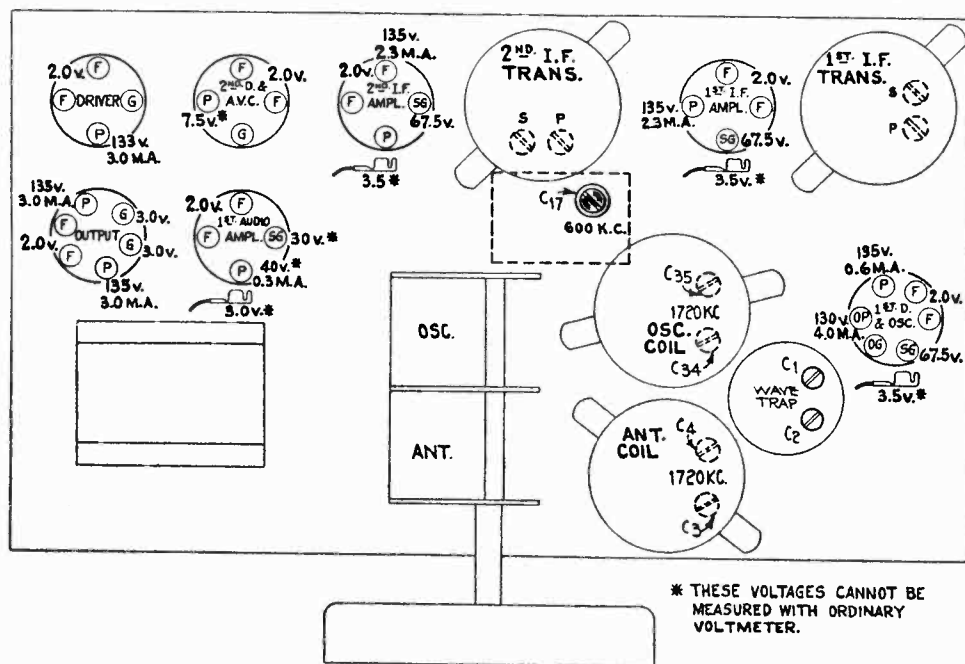

Figure 4—Line-Up Capacitor Locations and Voltage Values at Socket Contacts
- (b) Then set the receiver band switch to its broadcast position, the Test Oscillator at 1720 kc., and the dial pointer at 1720. Adjust the oscillator output so that a slight glow will be obtained in the output indicator when the volume control is at its maximum position. Adjust the two trimmers, C-35 and C-4, under the two r-f coils, see Figure 4, until a maximum output is obtained. Then shift the Test Oscillator frequency to 600 kc. The trimmer capacitor, C-17, accessible from the top of the chassis, should now be adjusted for maximum output while rocking the main tuning capacitor back and forth through the signal. Then repeat the 1720 kc. adjustment.
Voltage and current values indicated at the Radiotron socket contacts on Figure 4 form a reference basis for test of the receiver. It is to be noted that all voltages are given with respect to chassis-ground, excepting those appearing across the filaments (F-F). The values shown are obtainable when the receiver is in normal operating condition. They do not take into account inaccuracies caused by current consumed in the voltmeter used for the tests; the lower the voltmeter resistance, the lower the degree of accuracy.